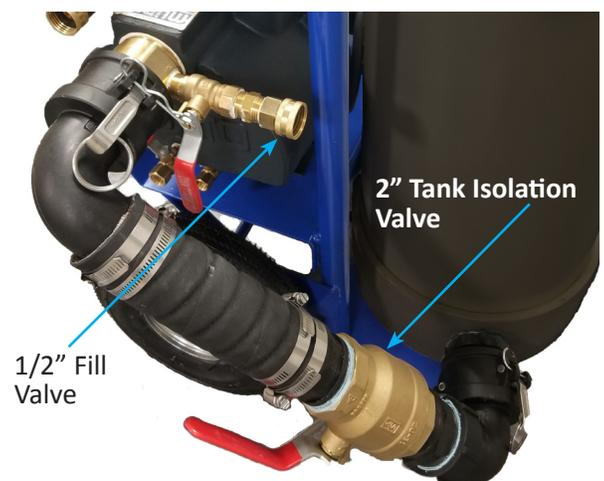
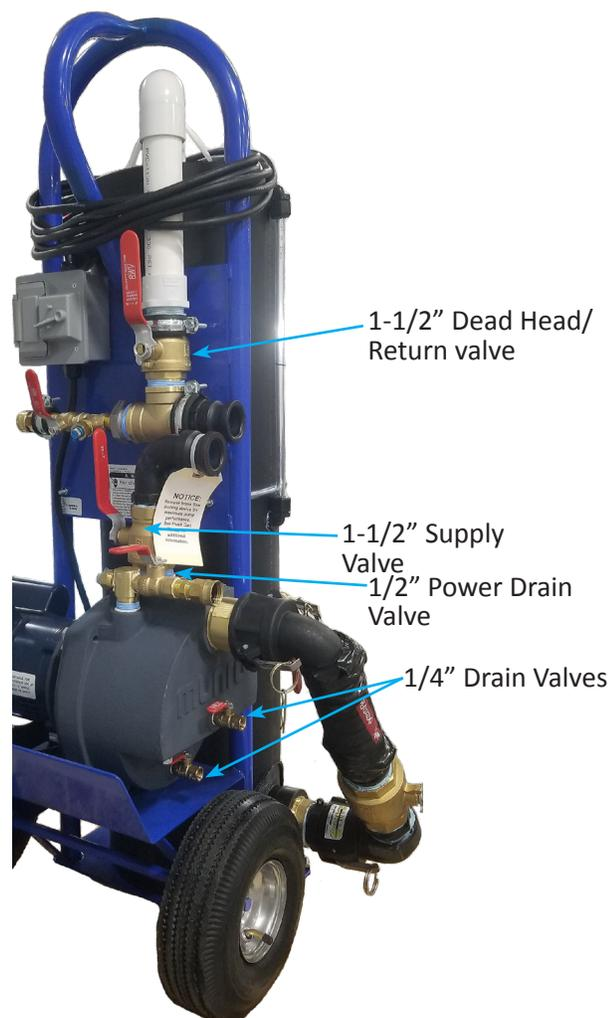

Figure 5: Fill Valve/Tank Isolation Valve
Figure 8: Flush Cart Valves in flushing steps
- Attach garden/utility hose to 1/2" fill valve (Figure 5). Attach other end of hose to acceptable municipal water supply or pre-mixed antifreeze source and transfer pump.
- Close 2" tank isolation valve (Figure 5) and open the 1-1/2" dead-head valve (Figure 8).
- Open 1/2" fill valve (Figure 5) and allow the loop to fill. Watch the fluid level in the tank via the sight tube. When the tank is nearly full, shut off the 1/2" fill valve and 1-1/2" supply valve (Figure 8).
10. Open the 2" tank isolation valve (Figure 5) and energize the pump. Slowly open the 1-1/2" supply valve (Figure 8) approximately 1/4 to 1/2 open. Air and debris will be pushed through the return piping. Debris will be captured in the bag filter and air will be released to the atmosphere.
11. Regulate the fluid level in the tank with the 1/2" fill valve (Figure 5) and the 1-1/2" supply valve (Figure 8) while the pump is running. Do not allow the fluid in the tank to drop too low or air will be pushed back into the loop extending flushing time.
NOTE: When the pump is running any air remaining in the loop will be pressurized. Therefore, if the pump is powered off during the flushing process the compressed air will expand pushing the loop fluid back in the tank. This could cause the tank to overflow. If the pump must be shut off during the process, close the 1-1/2" supply valve (Figure 8) and the 1-1/2" dead-head/return valve (Figure 8) to prevent fluid from returning to the tank.
12. When the fluid level remains relatively stable ensure that the 1-1/2" supply valve (Figure 8) is fully open.
14. While the pump is running, "dead-head" the pump by turning off the dead-head/return valve (Figure 8). Then, quickly reopen the valve allowing the fluid to return to the tank. This process drives the loop pressure up thereby compressing any air remaining in the loop. Quickly opening the valve creates a sudden high velocity surge that helps dislodge air into the fluid stream where it can be returned to the tank.
17. Close the 1-1/2" dead-head valve (Figure 8) while watching the fluid level in the sight tube. The dead-head process drives the static loop pressure to approximately 50 psi. Since fluid is incompressible but air can be compressed, this procedure shows whether air remains in the loop. In general, the fluid should not drop more than about 3/8" to 3/4" on a typical residential system. The slight drop in fluid is due to the expansion of the ground loop piping, and the actual drop will depend on the loop size (i.e. how much total pipe is in the loop) and fluid temperature.
19. Open the 1-1/2" dead-head valve (Figure 8) and allow the fluid to continue to circulate.
23. Close the 1-1/2" dead-head valve (Figure 8).
24. Close the 1-1/2" supply valve (Figure 8) to trap pressure in the system. Turn off the pump.
28. Open the 1-1/2" Supply and Return valves (Figure 8) to relieve the pressure in the hoses.